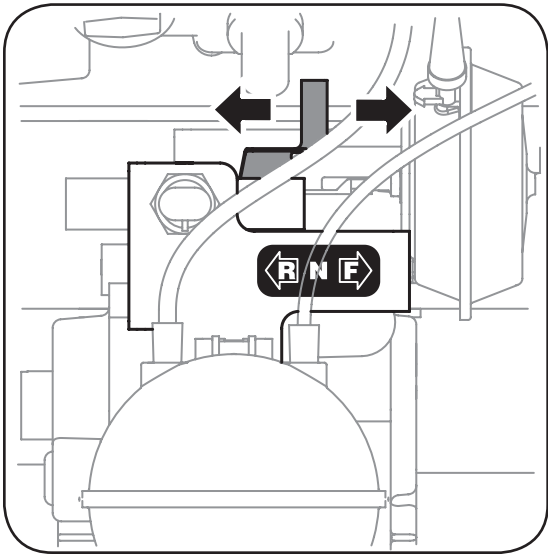

Figure 12
2. Engage the parking brake, raise and secure cargo box, and move lever to the forward position. See Figure 12.